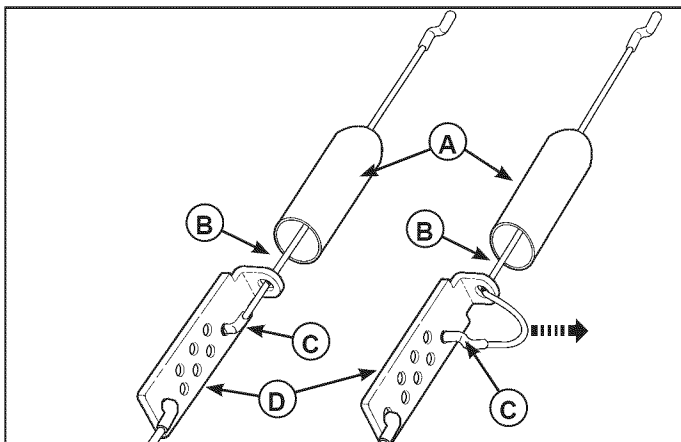

Figure 36. Traction Drive Cable Adjustment
2. To adjust tension on the cable slide the cable boot (A, Figure 36) off the cable adjustment bracket (D).
3. Remove the "Z" hook (C) from the cable adjustment bracket (D) to a different adjustment hole. The cable should have no slack. The cable should have no tension or load.